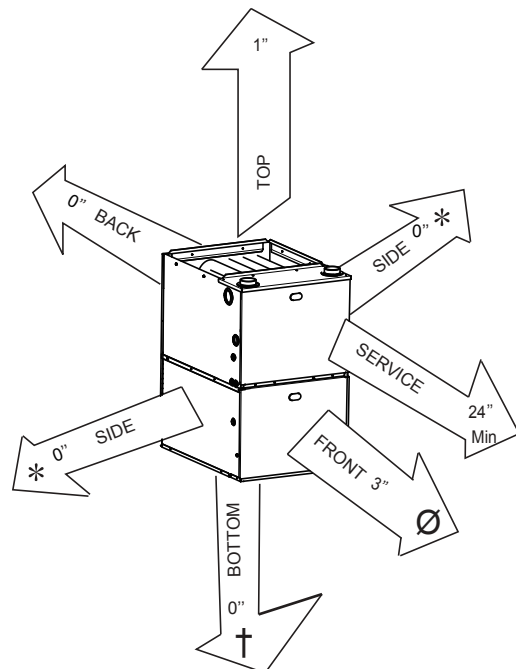

Fig. 2 - Clearances to Combustibles
- See Fig. 2 for required clearances to combustible construction.